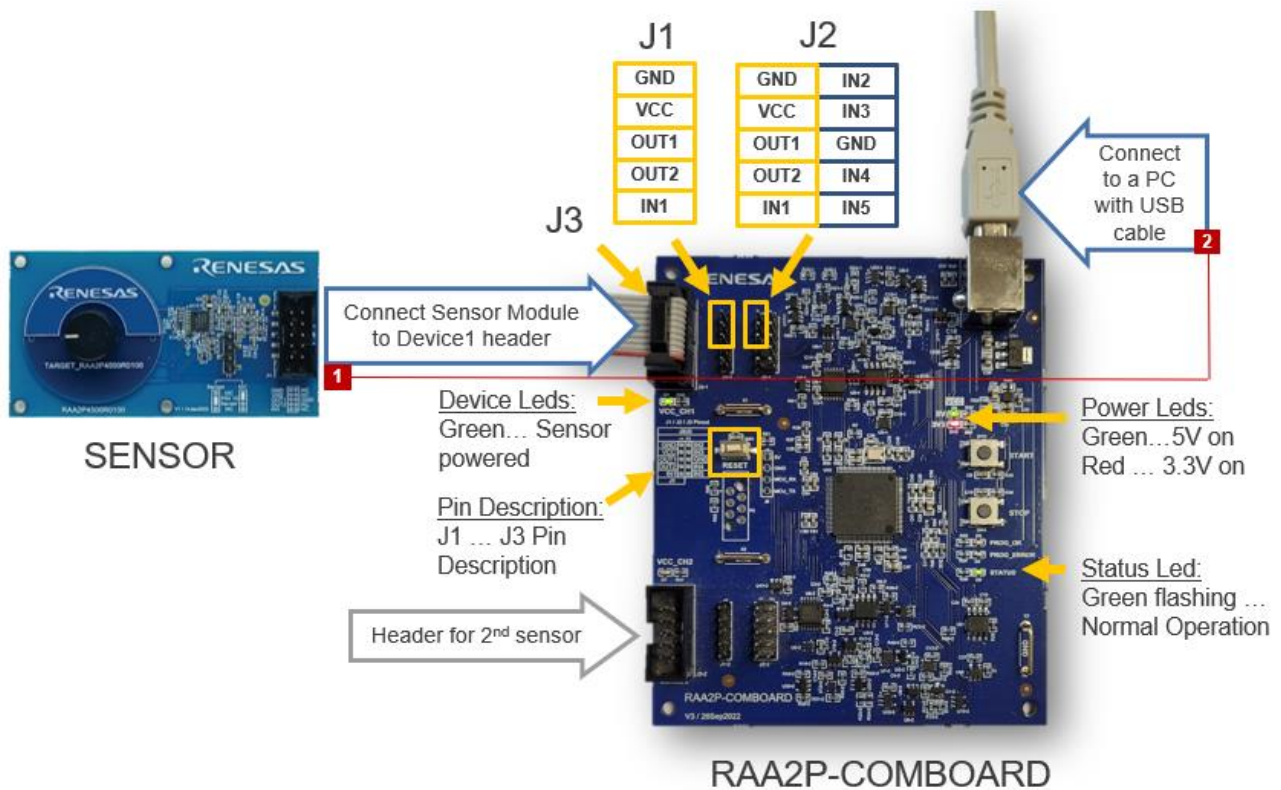

Figure 6. Evaluation Kit Connection Setup
1. Connect the sensor module P1 connector to the J3 header of the RAA2P-COMBOARD using the provided cable according to Figure 6